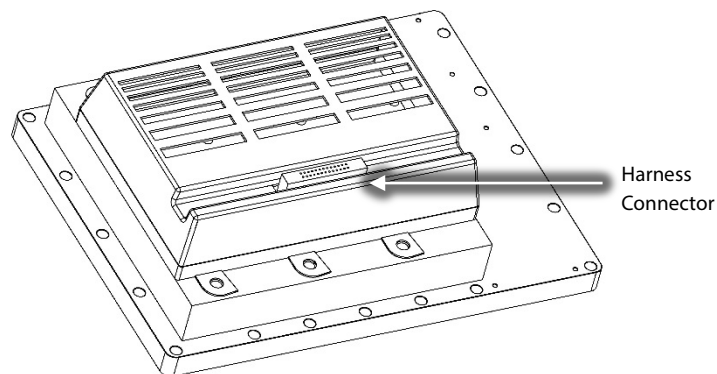

Figure 16 – Inverter Harness Removal
28. Remove the Inverter cable harness from the top of the Inverter. Refer to Figure 16 (Inverter Harness Removal).